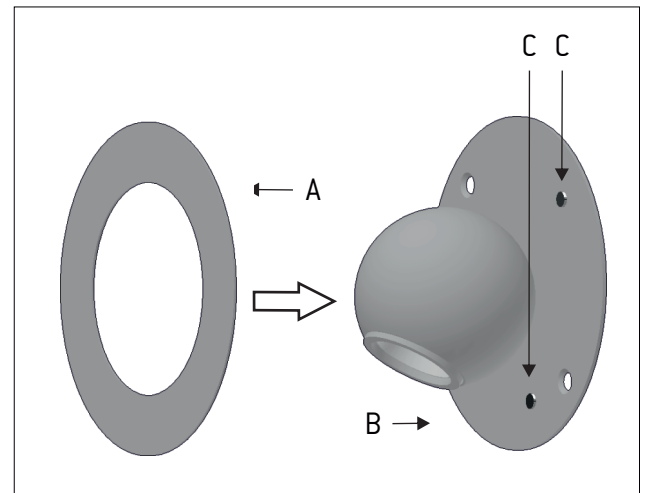

Figure 3
- 3 - Place back the decorative disc (A) to separate it from the mounting bracket (B). This disc is held by three magnets (C). There is no danger of breakage but be careful not to lose them. Figure 3.